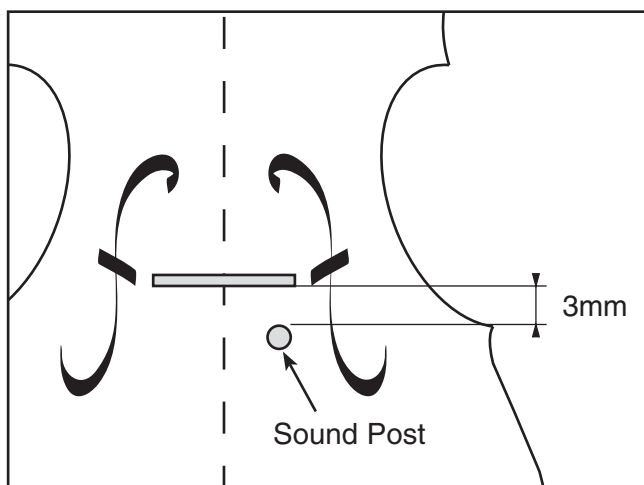

Figure 11. Sound post location.
3. Place the sound post towards the center of the violin and then use the other end of the sound post setter to pull the sound post to its final position, 3 mm behind the location of the bridge treble foot (**Figure 11**). Note—*The end grain of the sound post must be perpendicular to the grain direction of the violin top piece.*